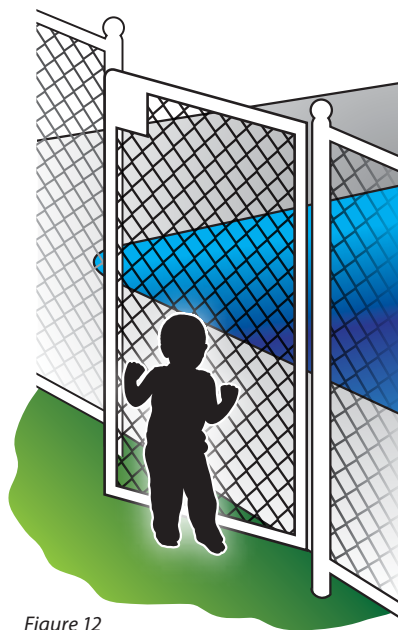

Figure 12
10. **Access gates** to the pool should be equipped with a locking device. Pedestrian access gates should open outward, away from the pool, and should be self-closing and have a self-latching device (figure 12). Gates other than pedestrian access